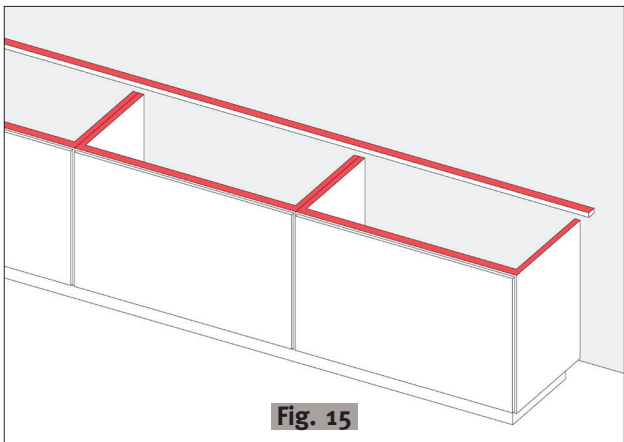

Fig. 15
- 3c. The worktop should have full support on the left, right, front and back side of the PITT cooking unit (fig. 15). This prevents tension in the worktop from the weight of the cooking unit.